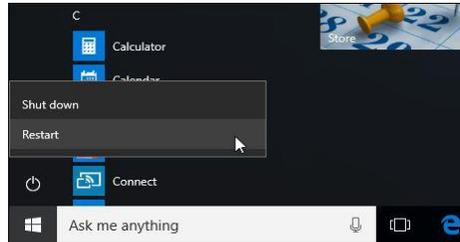

Figure 3 Hold down shift, click restart.
2. To do this, get to the Windows 8 or 10 advanced boot options menu. For example, you can hold down the Shift key while you click the "Restart" option in Windows (Figure 3). Your computer will restart into the menu.